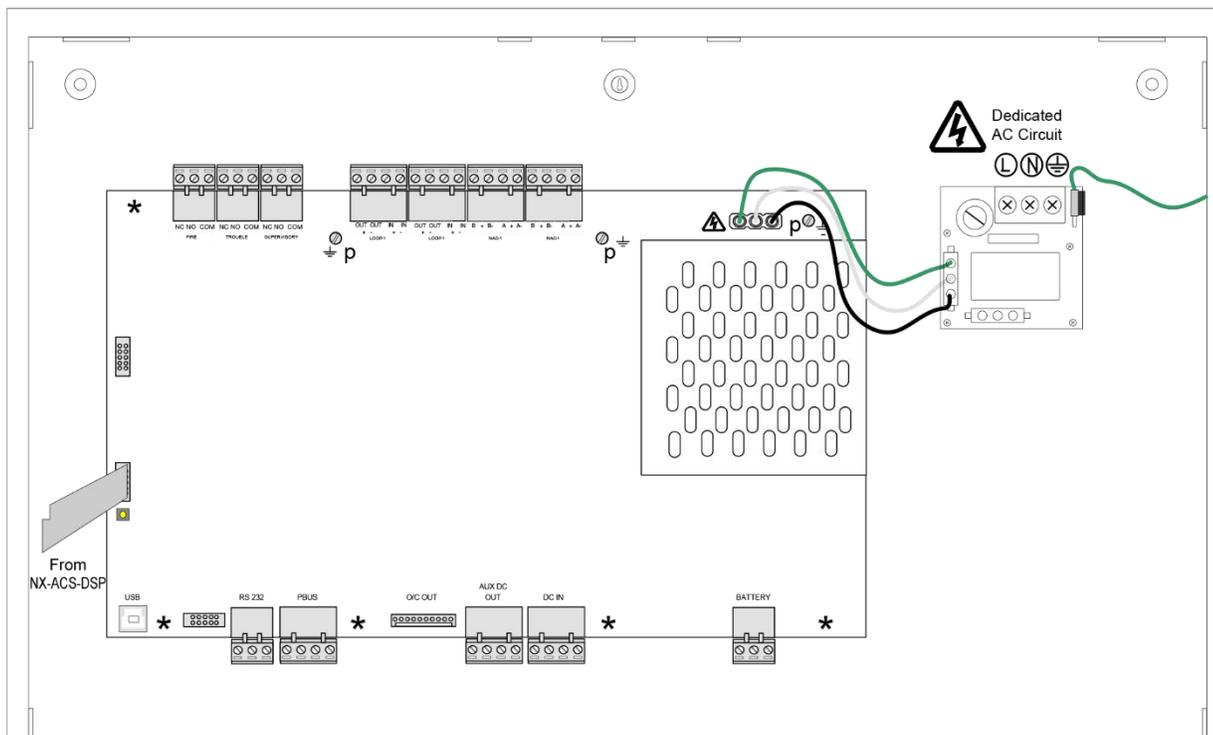

Figure 21 - NX-FACP Base Card
If replacing the NX-FACP base card, remove power (AC and battery) from the system. Remove all field wiring terminal blocks from the NX-FACP, and disconnect the Molex connector cable originating from the NX-ACS-ACB board. Disconnect the flat ribbon cable attached to the NX-ACS-DSP Alphanumeric Graphical Display and remove the three (3) screws [p] securing the NX-FACP to the back box. Carefully slide the NX-FACP up and off of the five top-hat (screw-less [\*]) standoffs (see figure 21).